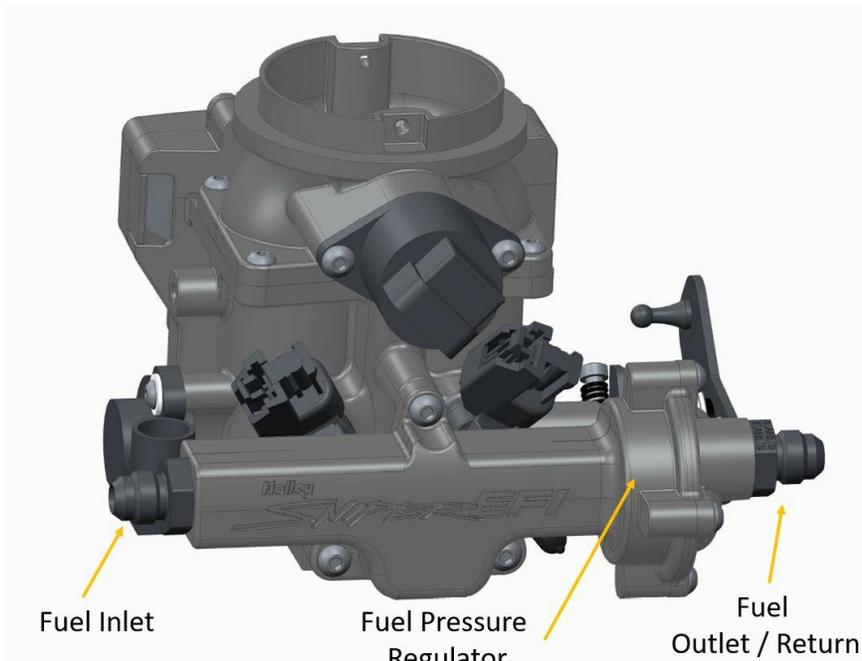

**Figure 2**
5. Reconnect the appropriate vacuum hoses to the Sniper EFI throttle body. **Be sure to plug any vacuum sources not used on both the Sniper EFI Throttle Body and on the Engine.** See Figure 2 for diagram of vacuum ports.